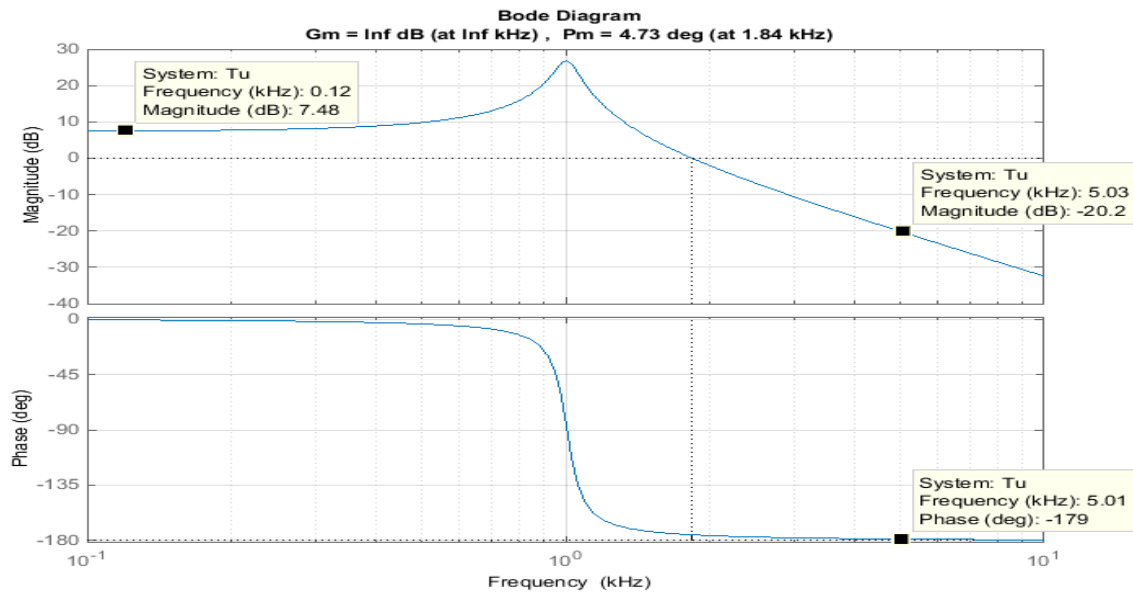

Fig.2
- 4A. Shown in Fig.2 is the Bode plot  $T_u(s)$  of an uncompensated switching converter with gain cross over frequency  $f_c = 1.84\text{KHz}$  and gain margin  $\text{GM} = 4.73^\circ$ . Design a Type-2 controller to obtain a gain margin of  $\text{GM} = 52^\circ$  and gain cross over frequency  $f_c = 5\text{KHz}$ .